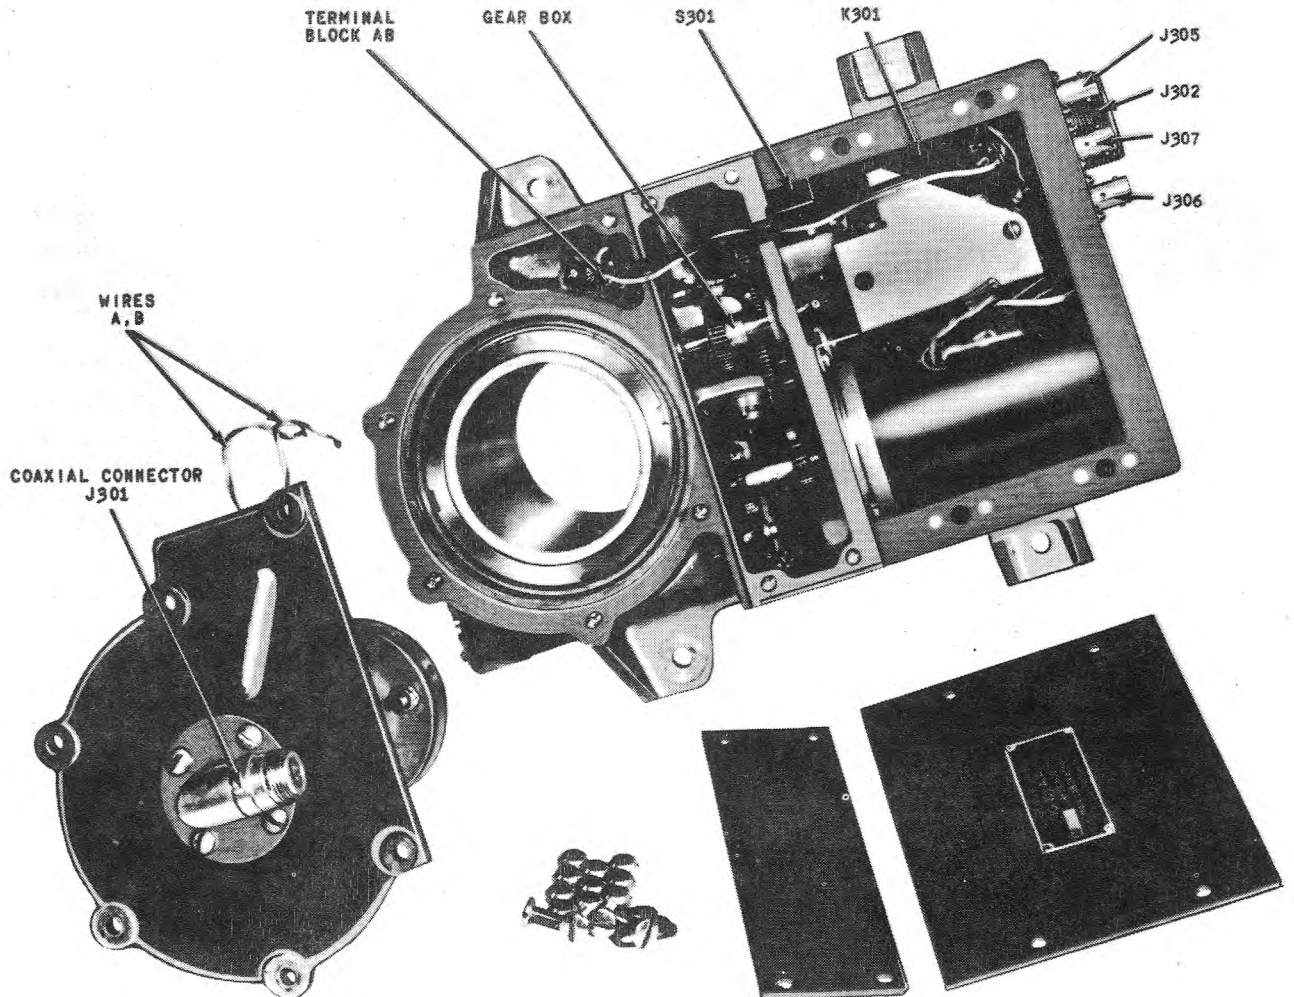

Figure 5-12. Antenna Drive TG-23/ALA-6, Gear Box, Antenna Coupler CU-398/ALA-6 and Plug P301
Step 8. In the event of excessive damage not correctable by the above steps, replace Antenna Coupler CU-398/ALA-6. See figures 5-12 and 5-13.
5-33. LUBRICATION. The only lubrication required on Direction Finder Group AN/ALA-6 for proper maintenance is that of the gear box in the Antenna Drive TG-23/ALA-6. Remove the cover of the gear box (figure 5-12) and apply MIL-G-3278 low-temperature aircraft grease to gears. Apply the grease in amounts sufficient to coat teeth lightly, but not in amounts that will drop off in the pan below the gears or that will tend to slow down their interaction. This should be done every 500 hours. Other lubrication procedures may be found in Handbook of Overhaul Instructions AN16-30ALA-3.